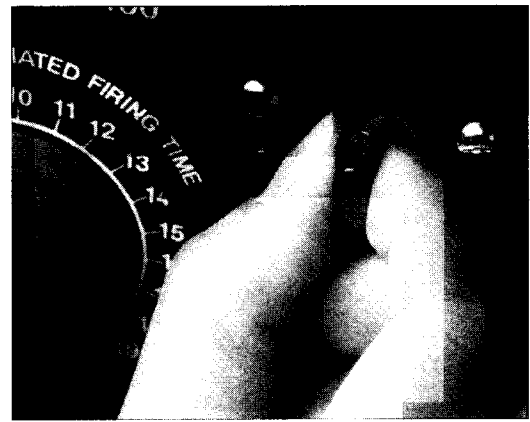

Figure 45
- d. Holding assembly (guide plate, claw and sensing rod) as shown (see Figure 45), slide sensing rod into tube.